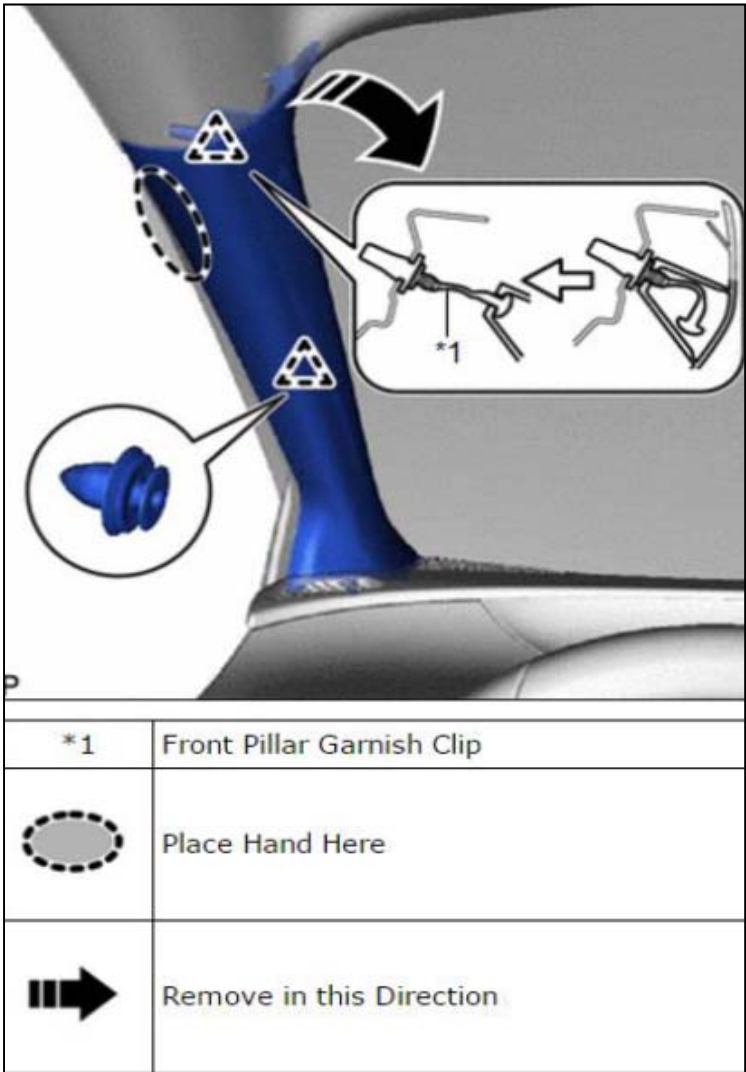

Figure 12
- b. Pull the upper part of the front pillar garnish LH towards the inside of the cabin to disengage the clip and front pillar garnish LH from the base of the front pillar garnish clip. See Figure 12.